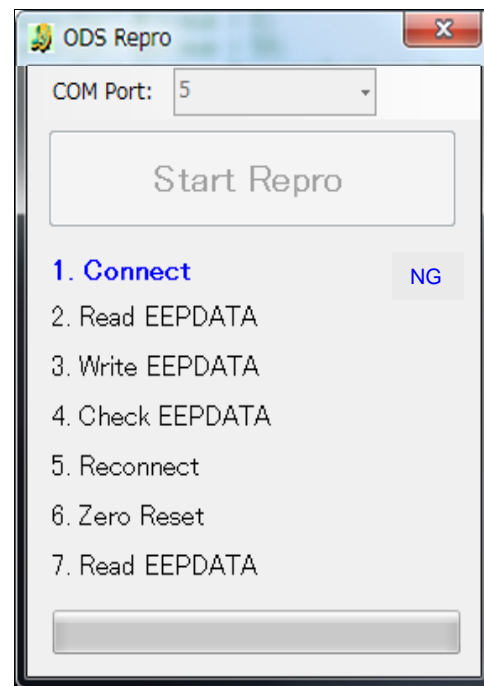

Figure 34
- If the OCS reprogramming stops (displays NG) at item 1, 2, 3 or 4, refer to Figures 34 through 37 on pages 18 and 19.
- Figures 34 through 40 on pages 18 through 21 are provided as reference if the OCS reprogramming stops (displays NG) at one of the items (1-7).